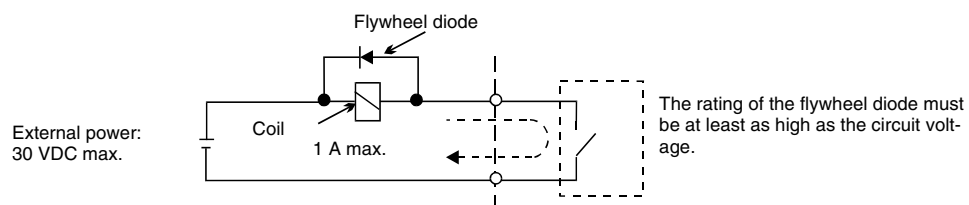

Fig 6 Flywheel Diode Connection
*3. When driving a reactive load, such as a relay coil with DC power supply, always insert a flywheel diode as shown in Fig 6